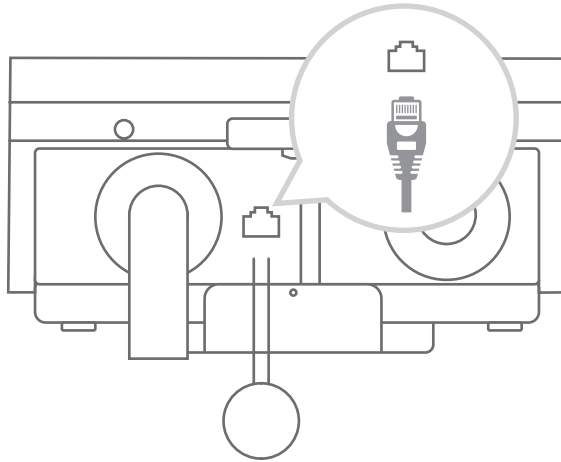

Fig. 5-19
2. Insert the RJ45 plug into the network port. (See Fig. 5-19)